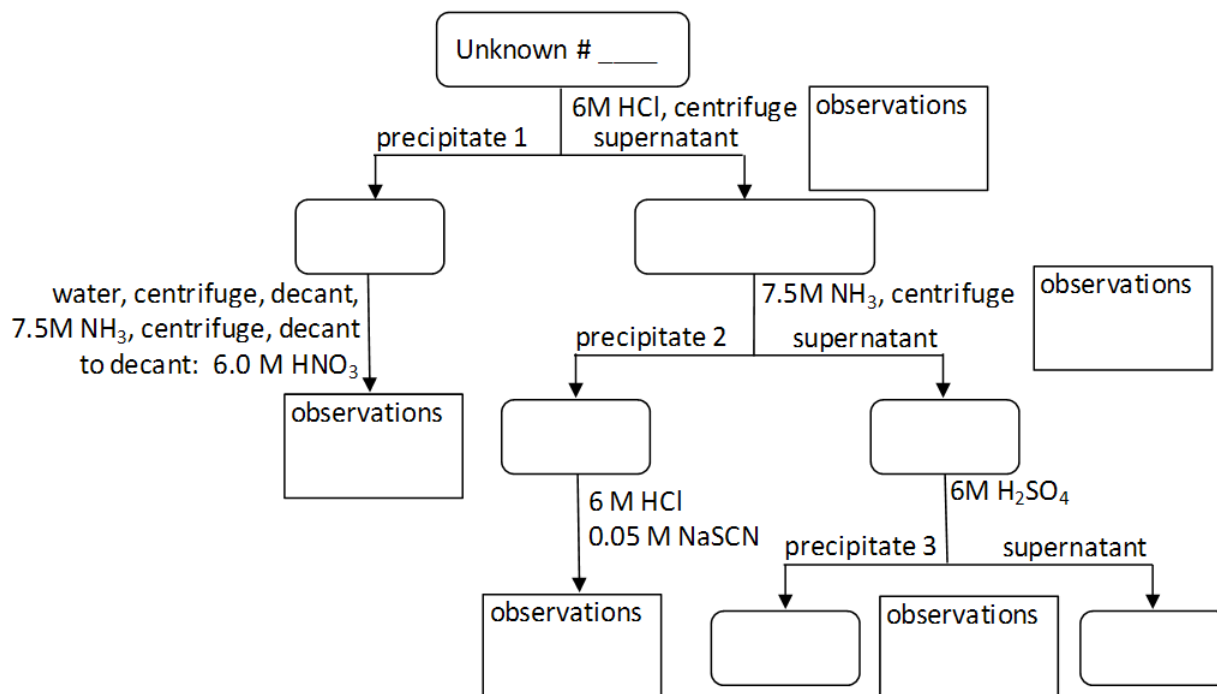

Figure 2: Qualitative Separation Scheme Template for Unknown Mixture
Note: As you work, document observations regarding the color of precipitates and solutions in the Figure 2 Qualitative Separation Scheme on your lab worksheet. Compare the observations from Parts B and C to assist in identifying the components of the unknown mixture in Part C.
- 1 Add nine drops of an unknown solution into a clean test tube. Enter your unknown number at the top of the Figure 2 Qualitative Separation Scheme on the lab data sheet.
- 2 Repeat steps 2–12 from Part B, documenting your observations as you work in Figure 2 found in the lab worksheet.